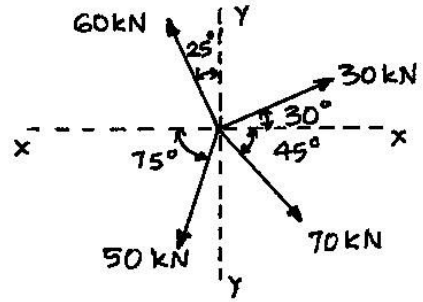

FIG 2. Q 1 (c)
- (c) Find magnitude and direction of resultant of force system shown in **fig. 2**. **05**